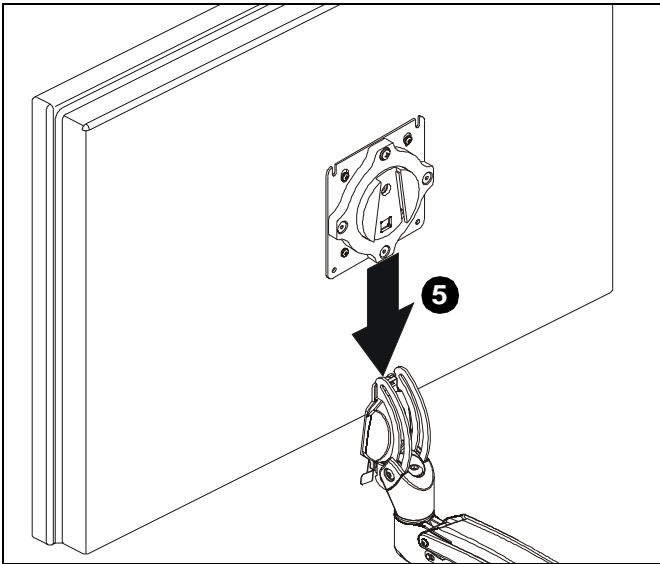

Figure 9
4. Position display with faceplate attached above mount. (See Figure 9)
5. Slide faceplate onto mounting head until quick release tab clicks into place. (See Figure 9)